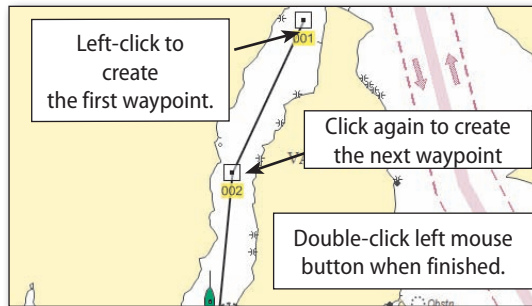

Figure 5.2 - Creating a Route
2. Click on the chart to place the first waypoint (see **Figure 5.2**). As you move the cursor to the next position, a line is drawn from the previous waypoint to the cursor and range/bearing text is displayed.